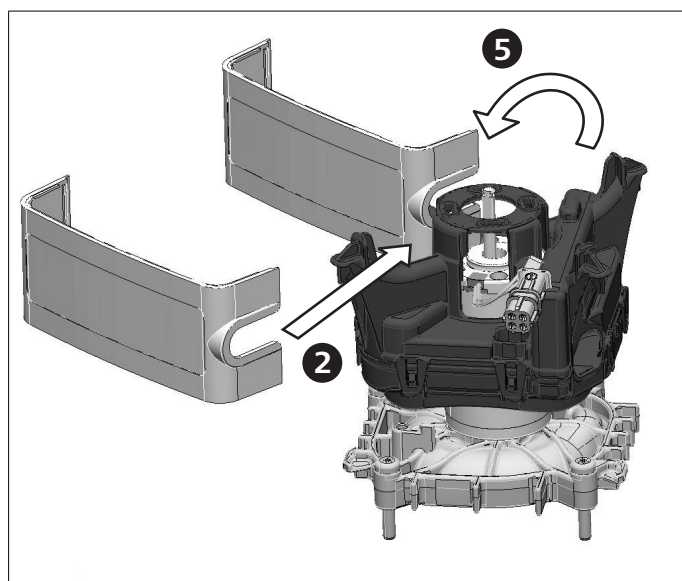

Fig. 901a Installing control unit
2. To prevent damage to the motor cable, lift up the control unit slightly and stick as a spacer the small strip of the cover of the electric connection (Fig. 901, 1) on the upper side of the motor in the next recess of the control unit (Fig. 901a).
5. With the cables pressed down, turn the control unit counter-clockwise up to the stop (about 30°). The cable is pushed behind the side wall of the housing while doing this (Fig. 901a).
8. Insert earth cable in slot between motor and control unit and fasten control unit with four screws (2), tighten to approx. 1.2 Nm.